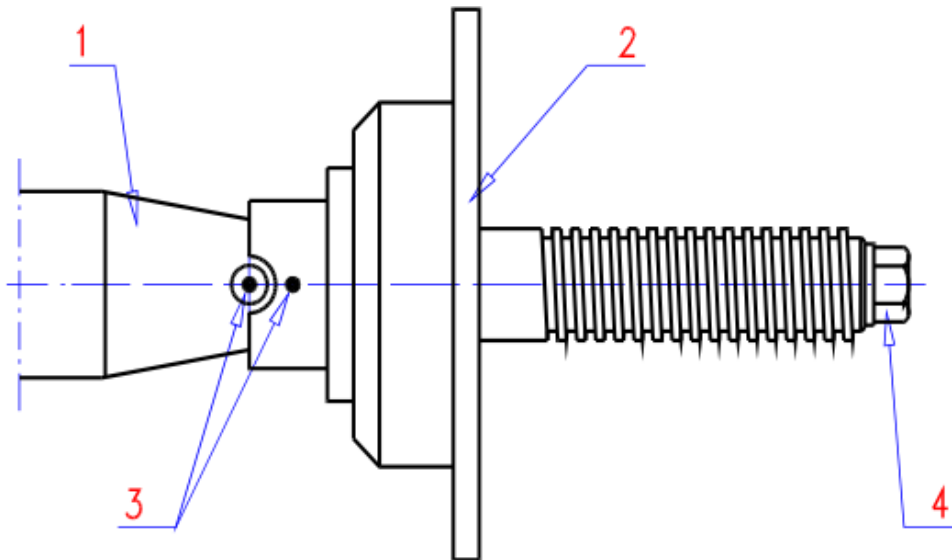

Fig. 5.2 Holder for car wheels (with no nut, cone or bushings)
An assembled holder for car wheels with rims having a central mounting hole is shown in fig. 5.2. Before mounting the holder, clean the cone surface of the spindle (1) and the surface of the holder (2). Place the holder on the spindle so the position of the markers (3) on the spindle's snug and on the holder is aligned as shown in figure 5.2. Lastly, screw the holder onto the spindle with the bolt (4).
For proper holder mounting, the holder's bar with a matching base (1) should be placed on the machine's spindle (1 in fig. 5.2). Secondly, the holder's axis (3) is to be screwed to the spindle using the shorter thread and tightened using a size 22 wrench.
If there is other holder than for car wheels mounted (fig. 5.2), it should be replaced with car wheels' holder as described in chapter 5.3.